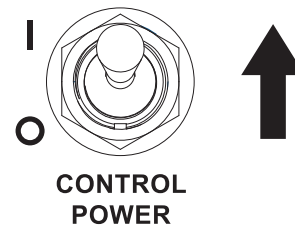

Figure 3-39. Controller Power ON
- See **Figure 3-39**. Switch controller power to ON (I).